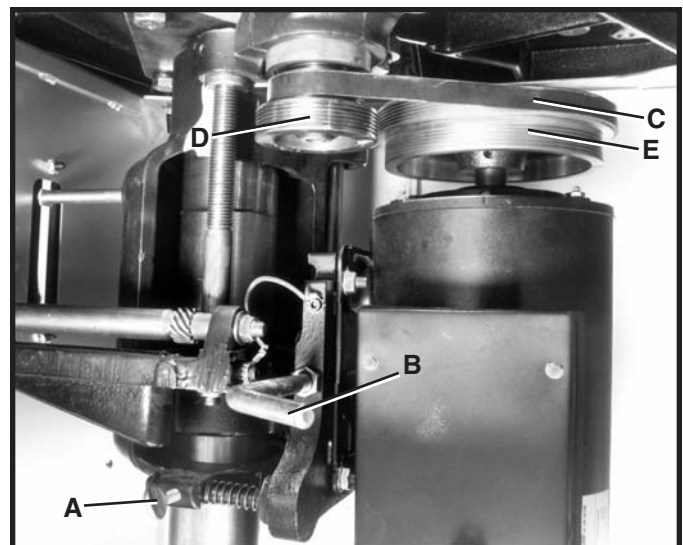

Fig. 47
2. Loosen thumb screw lock (A) Fig. 47. Release tension on belt by moving lever (B), to the left. Position belt (C), on the desired steps of the spindle pulley (D), and the motor pulley (E), and apply belt tension by moving lever (B), to the right. When desired belt tension is applied to belt, retighten thumb screw lock (A).
3. Proper belt tension is attained when there is approximately 3/32 deflection using light finger pressure (approx. 3.5 lbs.) at the center of the belt span between pulleys (D) and (E) Fig. 47. **IMPORTANT:** Pulleys (D) and (E) should always be aligned with each other to provide maximum belt performance and reduce belt wear. To check pulley alignment, refer to section “**REPLACING SPINDLE CARTRIDGE.**”